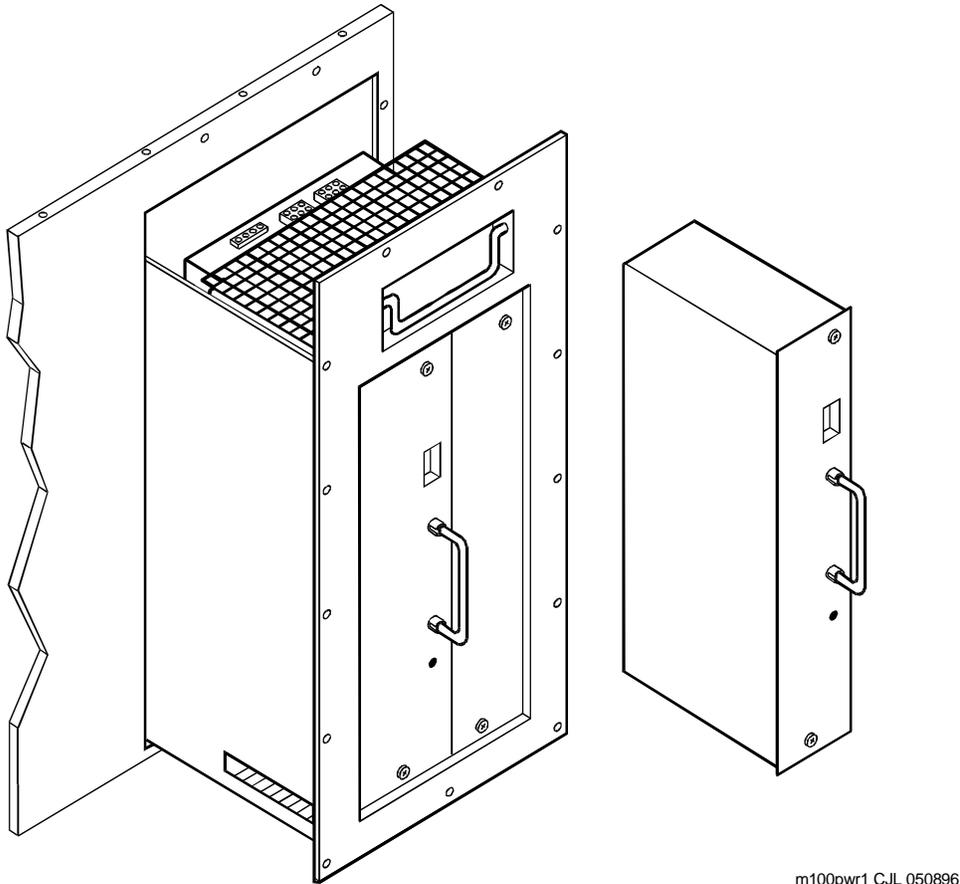

Figure 7-14. Power Module Assembly with Redundant Power Supply Capability
The power supply with the optional redundant power supply backup also provides 110/220-VAC and is located behind the peripheral bay (Figure 7-14).
MAP/100s equipped with a single power supply, installed by the Lucent factory, have the power supply located in position PS1 (Figure 7-14). A filler panel is located in position PS2 (Figure 7-14).
4. Place the power switch on the power supply in the off position (Figure 7-14).
5. Make sure the power supply status indicator is off (Figure 7-14).
6. Loosen the two 1/4-turn fasteners that hold the power supply to the power module assembly (Figure 7-14).
1. Make sure the AC power switch on the power supply being installed is in the "OFF" position (Figure 7-14).
5. Tighten the two 1/4-turn fasteners on the power supply (Figure 7-14).
6. Place the AC power switch on the power supply in the "ON" position (Figure 7-14).
7. Make sure the power supply status indicator on the power supply is lit, indicating that the power supply is operational (Figure 7-14).